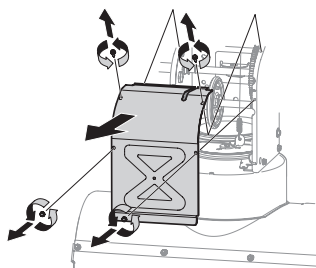

Figure 73
3. Remove frame cover from underside by removing self-tapping screws (Figure 73).
- Remove frame cover from underside by removing self-tapping screws (Figure 73).
- Remove frame cover from underside by removing four self-tapping screws (Figure 73).
- Using the four self tapping screws, reinstall the frame cover (Figure 73).